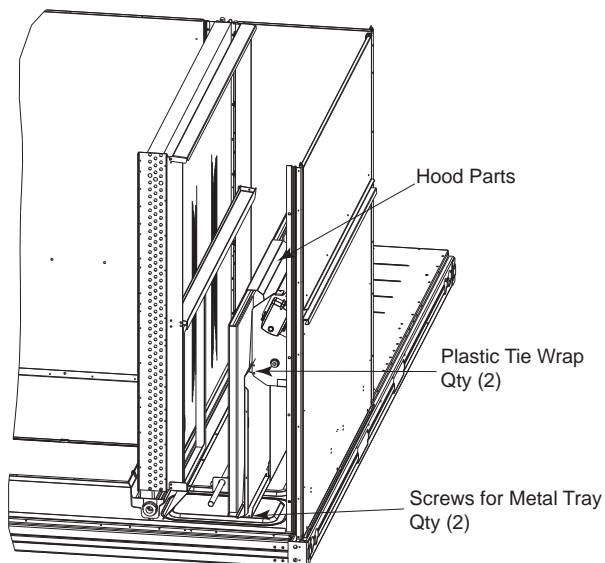

Fig. 20 — Two-Position Damper Hood Package Location
3. Locate the (2) screws holding the metal tray to the basepan and remove. In order to remove the screws, it may be necessary to remove the panel underneath the two-position damper. Remove the two screws. Locate and cut the (2) plastic tie-wraps securing the assembly to the damper. (See Fig. 20.) Be careful to not damage any wiring or cut tie-wraps securing any wiring.